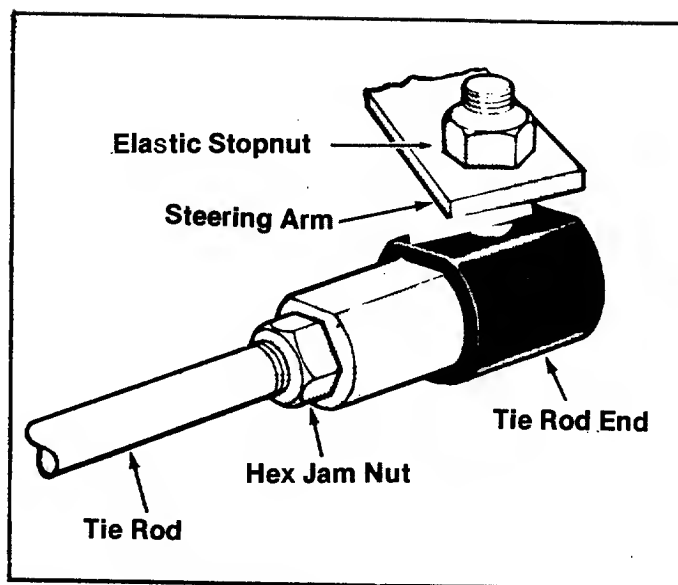

FIGURE 18. TIE ROD END
Step 1. Remove the elastic locknut and drop the tie rod end from the wheel bracket. See figure 18.